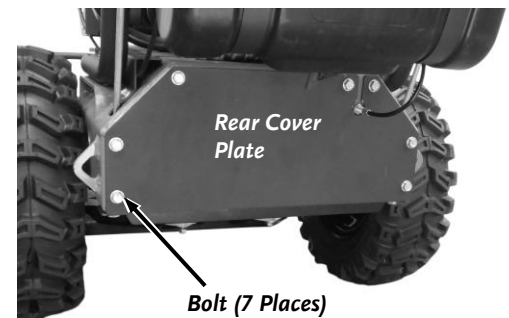

Figure 55
1. Remove the Rear Cover Plate using a 1/2" Wrench (**Figure 55**).